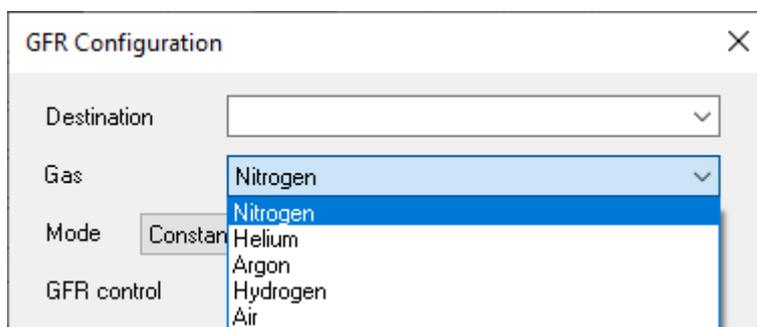

Fig. 35: GFR Configuration
3. Select the GFR channel you want to configure (in the example: 1. Helium). The *GFR Configuration* window opens (Fig. 35).